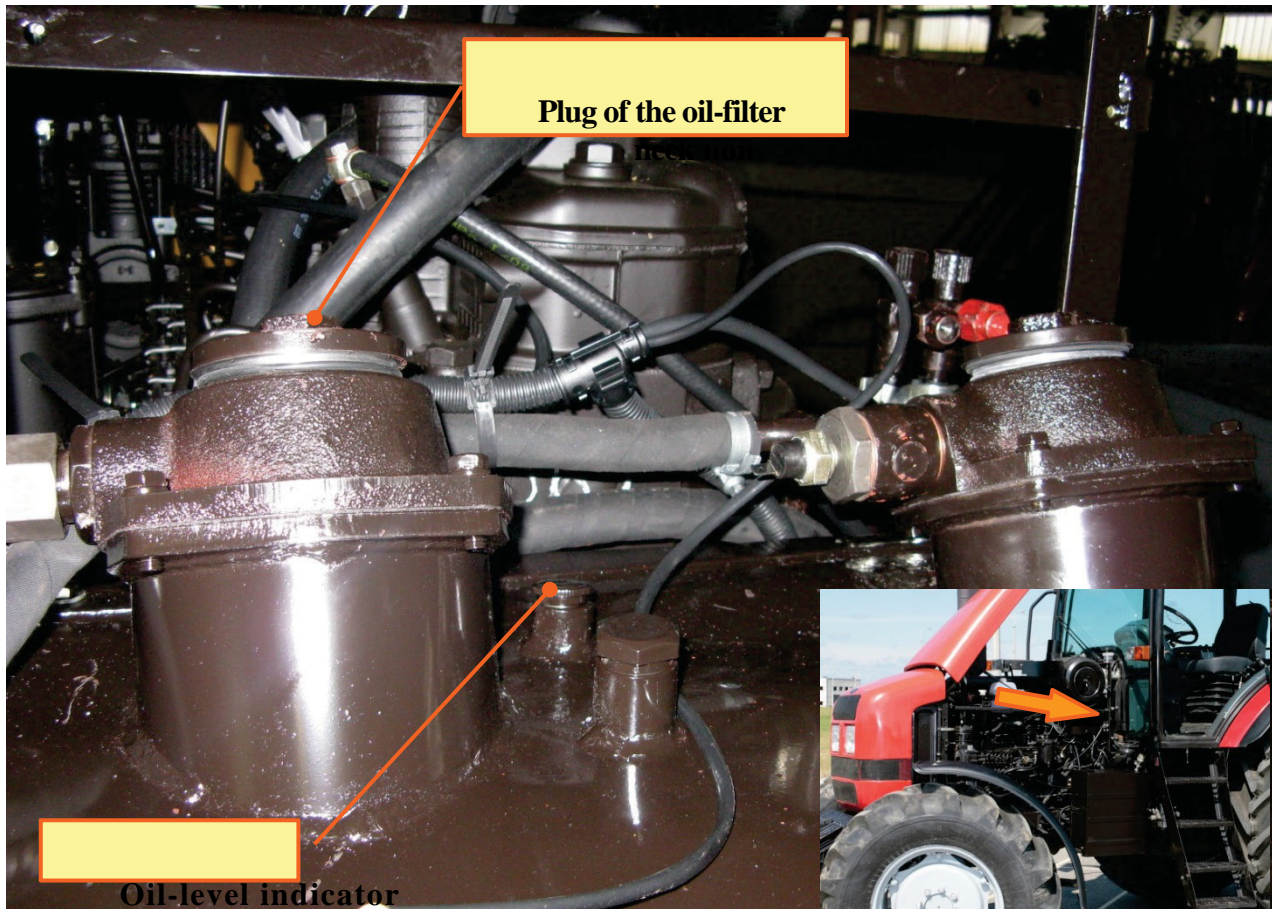

Figure 8.6
**Procedure 5. Checking the Oil Level in the RHL Oil Tank (fig. 8.6)**